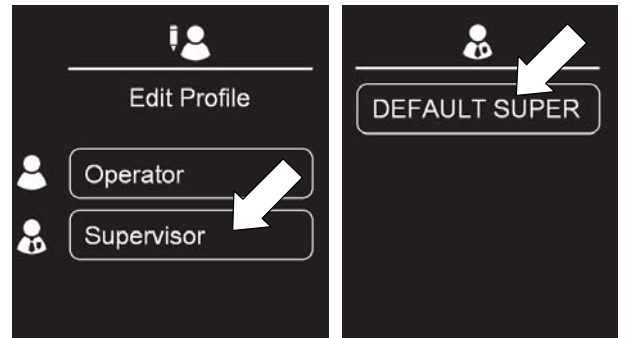

FIG. 181
4. Press the Supervisor button then press the DEFAULT SUPER button (Figure 181).